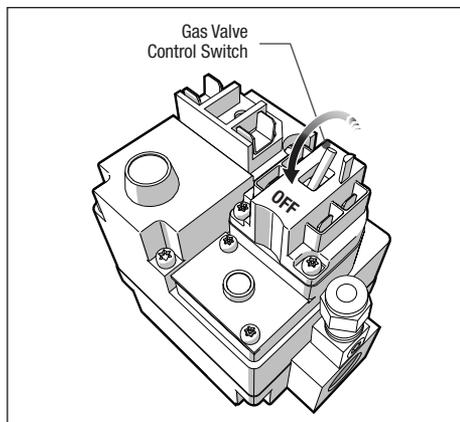

Figure 32. Gas Valve
- Toggle gas control switch to OFF position. See *Figure 32*.
- Wait five (5) minutes to clear out any gas, then smell for gas, including near the floor. **IF YOU SMELL GAS, STOP!** Follow instructions in **What To Do If You Smell Gas** (see *Section 1.1, Safety Instructions*).